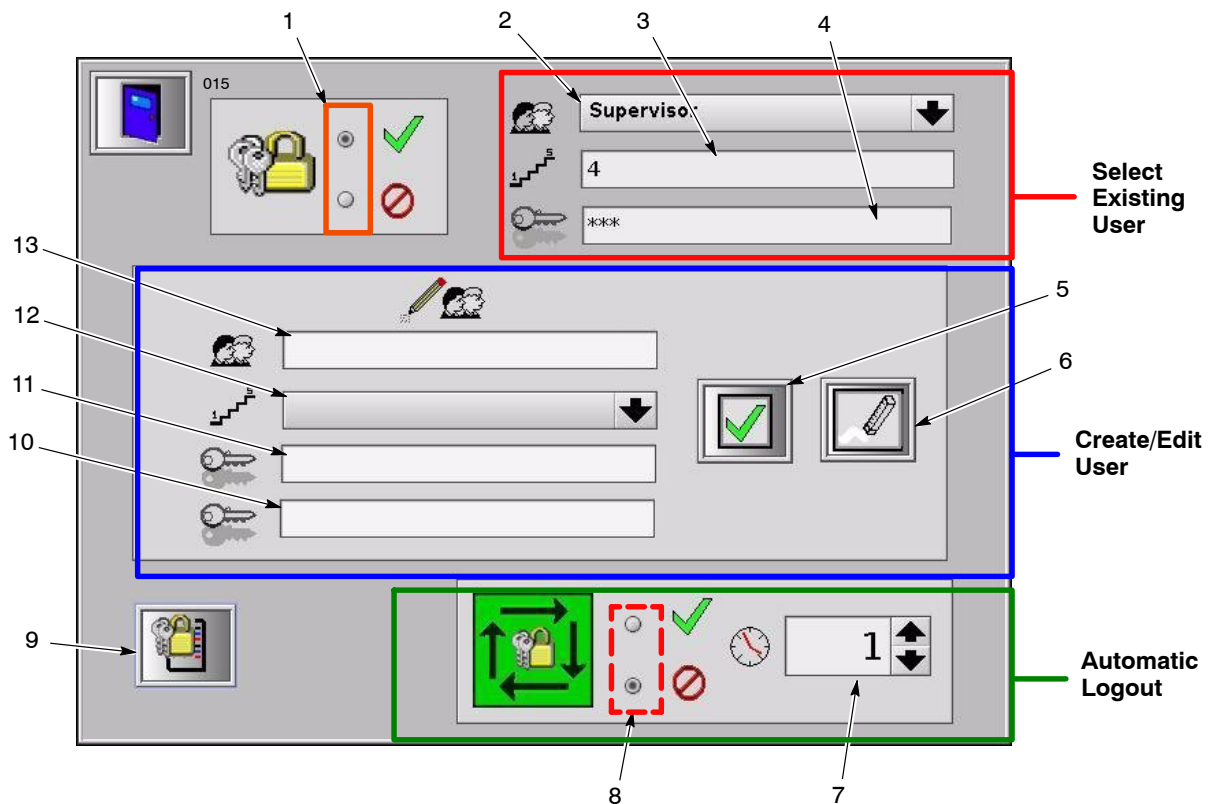

Figure 2-3 Security Configuration Screen
See Figure 2-3. Use the **Create/Edit User** area.
1. See Figure 2-3, Select Existing User area. Select a User name (2). The user name, security level, and password appears in the Create/Edit fields.
2. Edit the fields as desired, then touch the **OK** button (5).
3. To delete the user touch the **Delete** button (6).
See Figure 2-3. Automatic log out only applies to supervisor-level (level 4) users. To set up automatic logout:
See Figure 2-3. Touch the **Security Log** button (9) to open the Security Log. The log file contains a list of user names and the times they logged in and out.